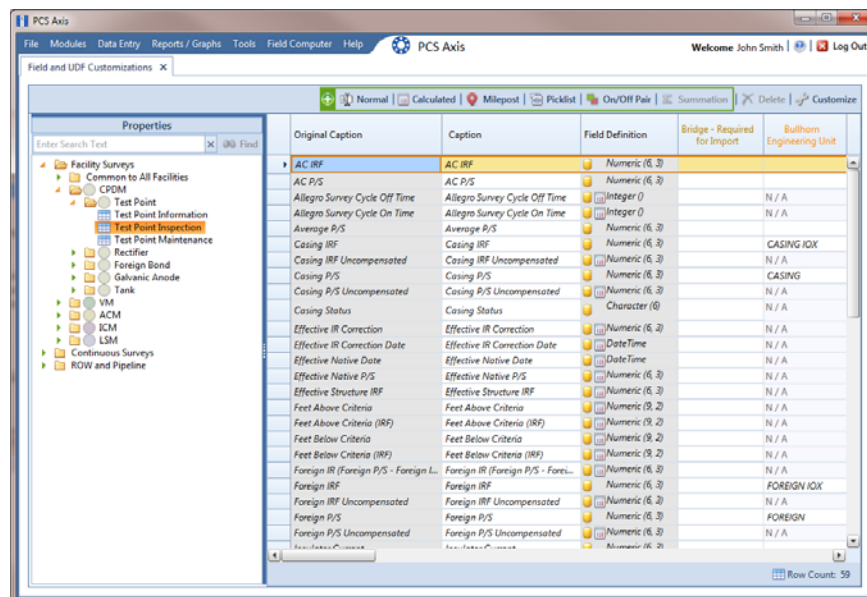

Figure 3-36. Field and UDF Customizations
- 3 Select an item in the *Properties* panel that includes the data entry grid you want to add a UDF. For example, double-click **Facility Surveys > CPDM > Test Point > Test Point Inspection** to display a grid with fields and property settings related to the *Test Point Inspection* data entry grid (Figure 3-36).